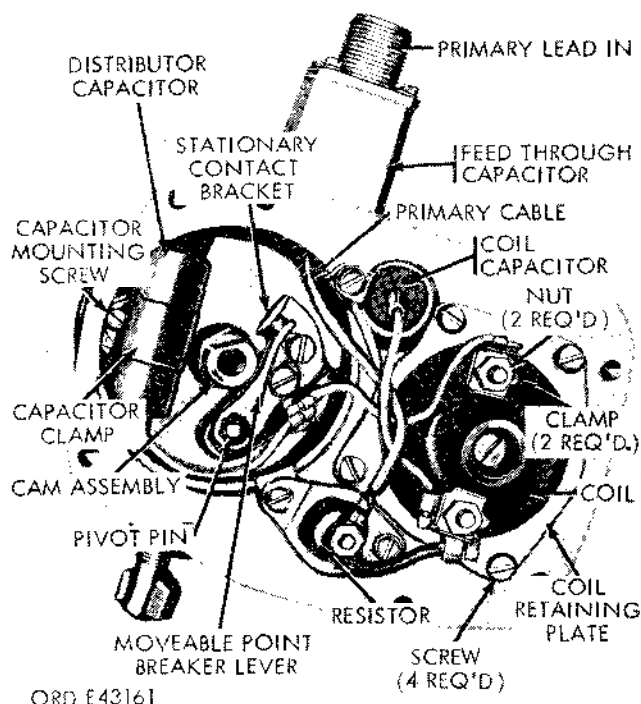

Figure 2-149. Distributor with cover removed.
(2) *Removal* (fig. 2-149).
(3) *Installation* (fig. 2-149).**CAUTION**
e. *Ignition Coil* (fig. 2-149).(1) *Removal*.
f. *Resistor* (fig. 2-149).(1) *Removal*.
g. *Coil Capacitor* (fig. 2-149).(1) *Removal*.